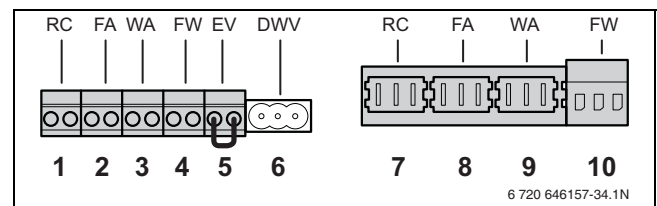

Fig. 38 External connection board connections
- Connect a Room- or Cascade controller to the orange RC terminal (→ fig. 38) (→ § 7.1.4, page 24).
- Connect the outdoor temperature sensor to the blue FA terminal (→ fig. 38).
- Connect the potential-free heat demand contact (On/Off thermostat) or relay panel end switch to the green WA terminal (→ fig. 38).
- Remove the cable from the EV terminal (→ fig. 38).
- Connect the external switch contact to the red EV terminal (→ fig. 38).